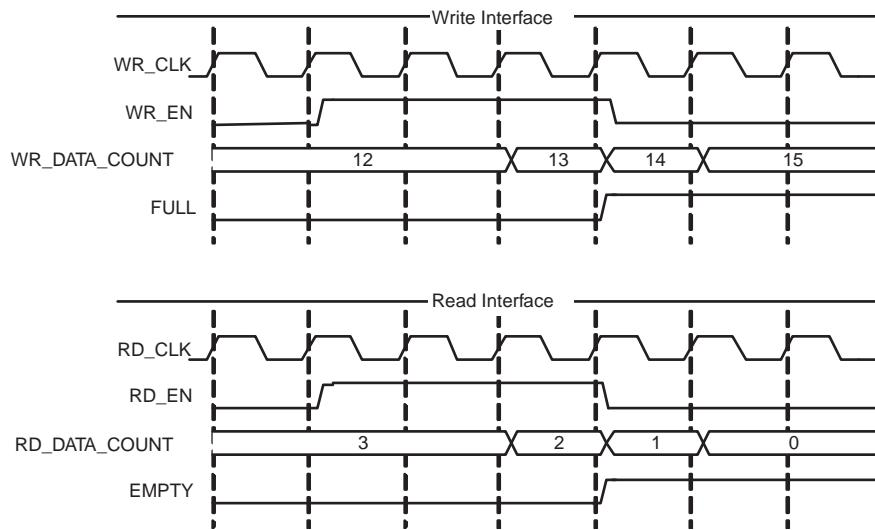

Figure 5-16: Write and Read Data Counts for FIFO with Independent Clocks
Figure 5-16 shows write and read data counts. When WR\_EN is asserted and FULL is deasserted, WR\_DATA\_COUNT increments. Similarly, when RD\_EN is asserted and EMPTY is deasserted, RD\_DATA\_COUNT decrements.
**Note:** In the first part of Figure 5-16, a successful write operation occurs on the third rising clock edge, and is not reflected on WR\_DATA\_COUNT until the next full clock cycle is complete. Similarly, RD\_DATA\_COUNT transitions one full clock cycle after a successful read operation.